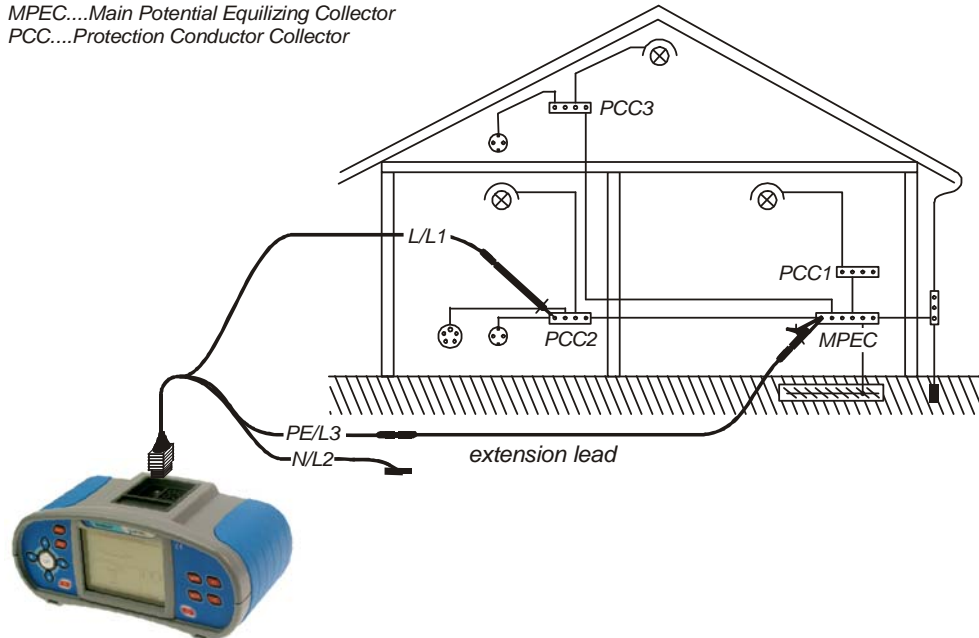

Figure 5.10: Connection of universal test cable plus optional extension lead
- ❑ **Connect** test leads to the tested PE wiring (see figure 5.10).